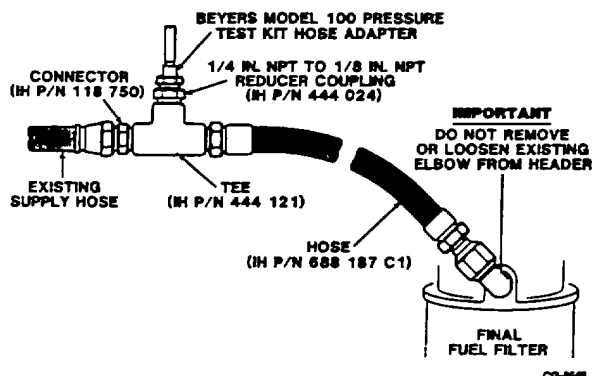

Figure 18b. Fuel Supply Pump Pressure Test (Without Vent Plug)
- Remove final filter vent plug on top of fuel filter header (if equipped). If no vent plug is available refer to Figure 18b.